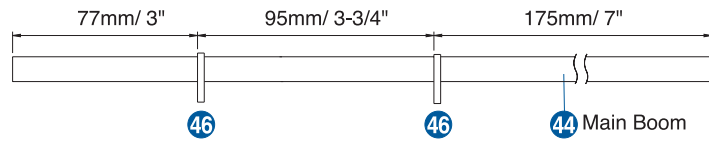

Fig. 23
2. Measure the main boom and mark at the places indicated in Fig. 23.